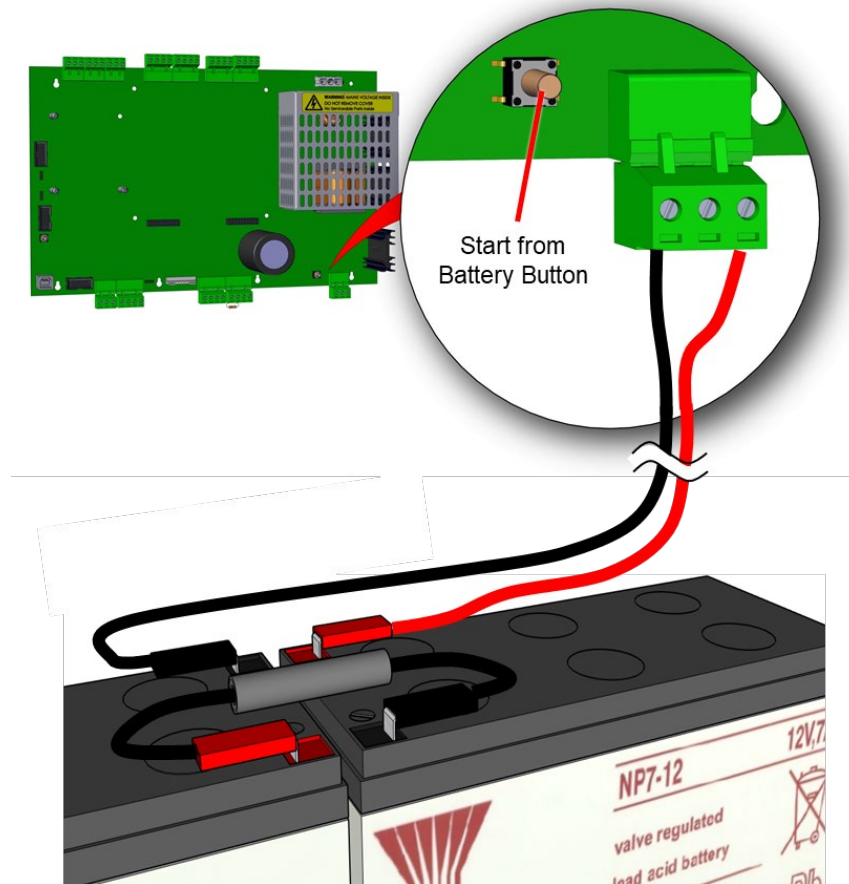

Figure 14 - Battery Connection
To wire batteries to the NX10-ACS base card, connect the two (2) supplied battery leads to the BAT+ (red battery lead) and BAT- (black battery lead) terminals of the NX10-ACS base card. Connect the red battery lead (BAT+) to the positive lead of one 12 VDC battery and connect the black battery lead (BAT-) to the negative lead of the second 12 VDC battery. Finally, connect the supplied battery link with 10A, 250V fuse from the negative lead of the first 12 VDC battery to the positive lead of the second 12 VDC battery. If a fully charged set of batteries are connected to the NX10-ACS base card, the panel can be powered without AC by pressing the Start from Battery Button (Figure 14).